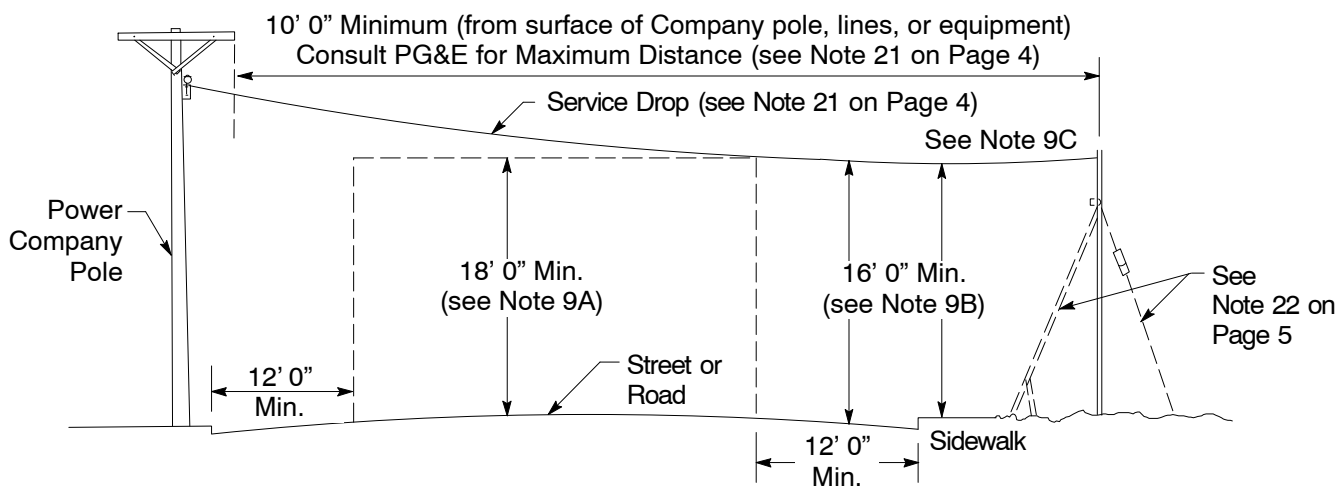

Figure 1
21. Poles must be located so that the vertical clearances specified in Note 9 and Figure 1 on Page 3 can be obtained. A service pole must not be located less than 10 feet from the surface of the PG&E pole, or pole-mounted equipment, or within 10 feet of the vertical plane of a PG&E line.